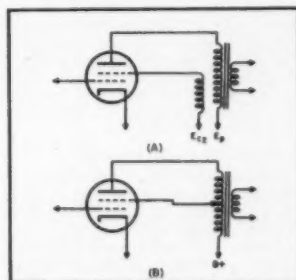

Fig. 1. Arrangements for energizing the screen grid to improve tube linearity.
Experimentally it was found that the goal of improved operation could be achieved through energizing the screen with d.c. through a special winding on the output transformer and combining the effects of both plate and screen current in the output transformer. This is illustrated at (A) in Fig. 1 with an alternative and simpler method shown at (B). It has been found that the screens must be fed from a low-impedance source or the benefits of this arrangement cannot be realized. This eliminates the possibility of doing the same job with resistive bridge networks or voltage dividers.
In applying the ultra-linear output arrangement to complete amplifier circuits, it was found that the simple version of (B), Fig. 1 could be used to advantage. By feeding d.c. to the screens through a properly placed tap on the primary of the output transformer, the operating conditions are preserved, and the close coupling between screen and plate is advantageous when feedback is carried around the stage. The disadvantage of this simpler arrangement is that screen and plate must operate at the same d.c. potential. In the particular arrangement used the screen and plate are operated at the same potential (350 volts plate to cathode) without exceeding dissipation requirements, either quiescent or at maximum output. This new output coupling arrangement reduces screen dissipation at high levels and is a safe mode of operation with respect to tube life.